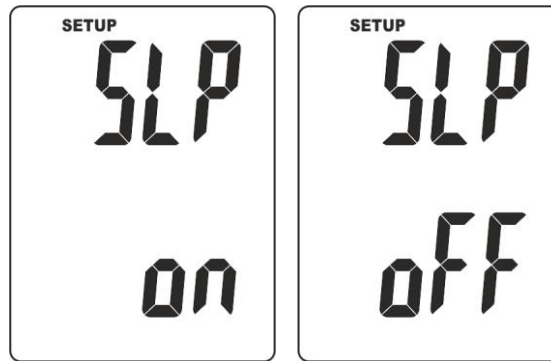

Fig. 5: Enabling/disabling the Auto Power Off function
8. Press key **ENT** at the end, to confirm the value of duct area. The following screen (see Fig. 5) is displayed.